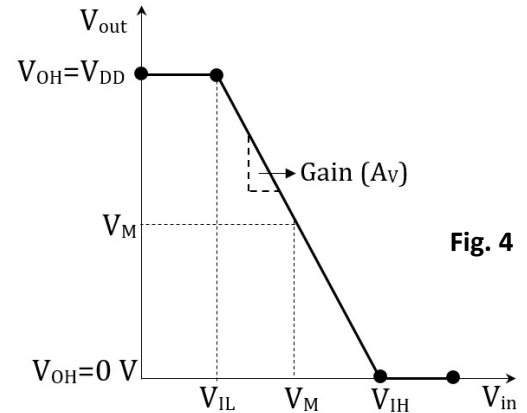

Fig. 4
Q4 Consider a CMOS inverter of (fig. 4) with following specifications where switching threshold (V_M) is 1.25 V.
- b) Voltage transfer characteristics (VTC) of the above CMOS inverter ($V_M =1.25 \text{ V}$ and $W_n=2 \mu\text{m}$) is shown in Fig. 4. Calculate the gain A_v (Fig. 4) of the CMOS inverter considering $\lambda_n=\lambda_p=0.235 \text{ V}^{-1}$
- c) Calculate V_{IL} and V_{IH} from Fig. 4 using the gain (A_v) of CMOS inverter. Also, calculate the value of NM_L and NM_H .